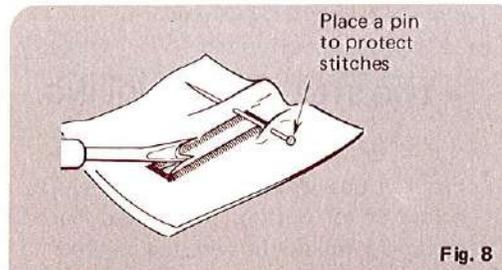

Fig. 8
9. Remove work from machine, clip thread ends, and cut button opening with the seam ripper or a pair of small sharp scissors. (Fig. 8).